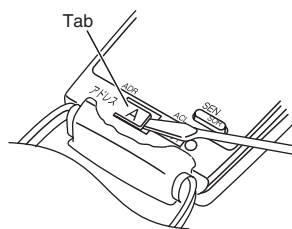
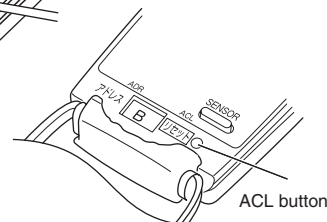

Fig.57
Fig.58
- (1) Switch on the power source.
- (2) Break the address-setting tab marked "A" on the second remote controller to change the address (Fig.57). When the tab is removed, the address is automatically set to B(Fig.58).
- (3) Press the ACL(reset) button. Use a thin object such as the tip of a pen to press the ACL button.
- (4) After the power cut off, for safety please cut Jumper (JP02) on Printed Circuit Board (PCB) in the indoor unit.